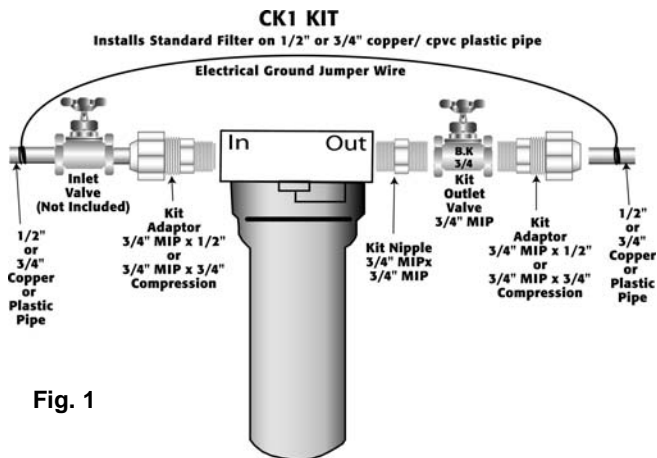
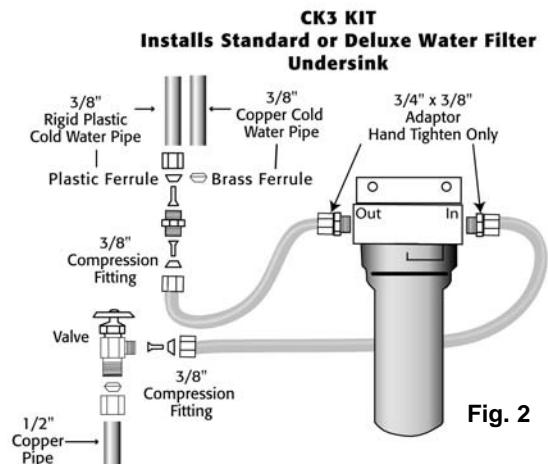

Fig. 1
Fig. 2
It may be installed in-line as in Fig. 1 or undersink as in Fig. 2.
For solderless installation use a Rainfresh CK1 or CK3 connector kit available at your dealer. (see Fig.1&2)
2. Install filter using Rainfresh Connector Kits CK1 for Inline (Fig 1.) or CK3 Kit for undersink (Fig 2) or standard pipe fittings in desired location making sure water enters inlet side of filter as marked on Filter Head.
3. Remove sump by turning 1/8th turn counterclockwise and lower. Remove protective bubblepack around 1M Cartridge. The filter unit comes with a ceramic adaptor (1007-0) that is threaded onto the cartridge and allows a simple press up fit of the cartridge over the center boss of the filter head (501). To replace sump, align the sump grooves with inlet head (501) lugs and push straight up onto the head. Turn the sump 1/8 turn to right to lock.